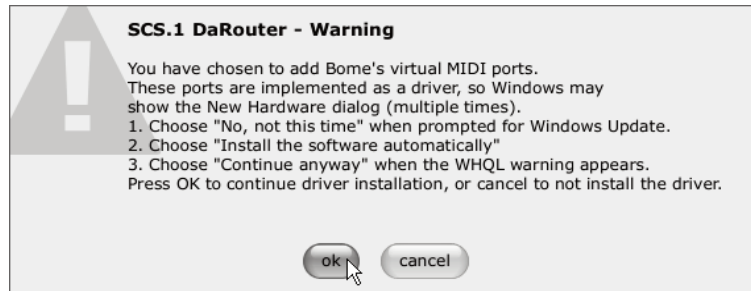

Figure 4.9
9. Now let's install Bome's Virtual MIDI ports. Read carefully the following instructions and click **OK**. (Figure 4.9)